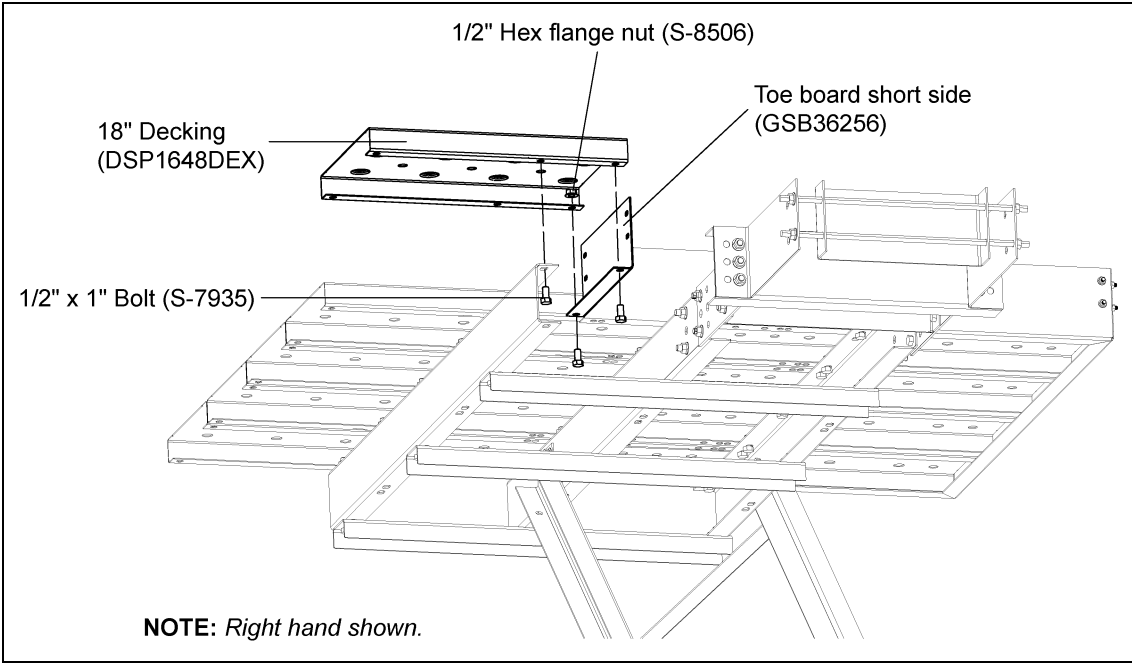

Figure 10I
4. Align flange of end toe board along the bottom of decking. Connect end toe board to decking using 1/2" x 1" bolts and nuts. *(See Figure 10I on Page 72.)*